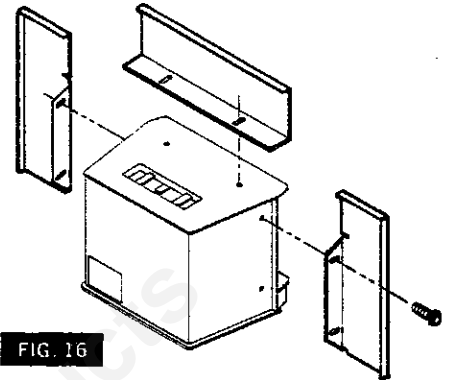

FIG. 16
7. Mount the trim panels using a 3/8" or adjustable wrench and the (6) 1/4-20 self threading screws provided. (Fig. 16).